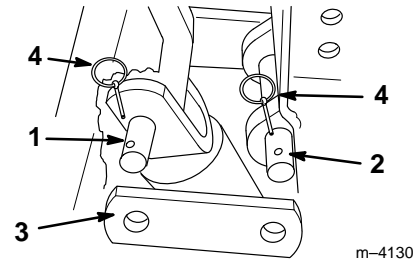

Figure 9
14. Slide the two links on each end of the tilt cylinder pin and the backhoe link pin and secure them with two lynch pins (Fig. 9).